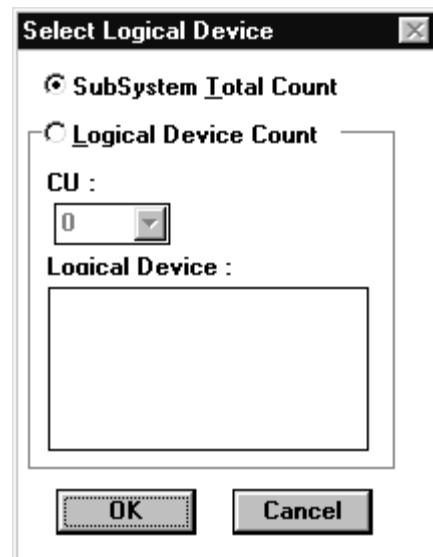

Figure 4.8 Select Logical Device Panel
4. On the Monitoring Parameter panel, enter the desired subsystem data sampling rate (from one minute to 546 minutes in one-minute increments), and then select **OK**. The Select Logical Device panel now opens (see Figure 4.8).